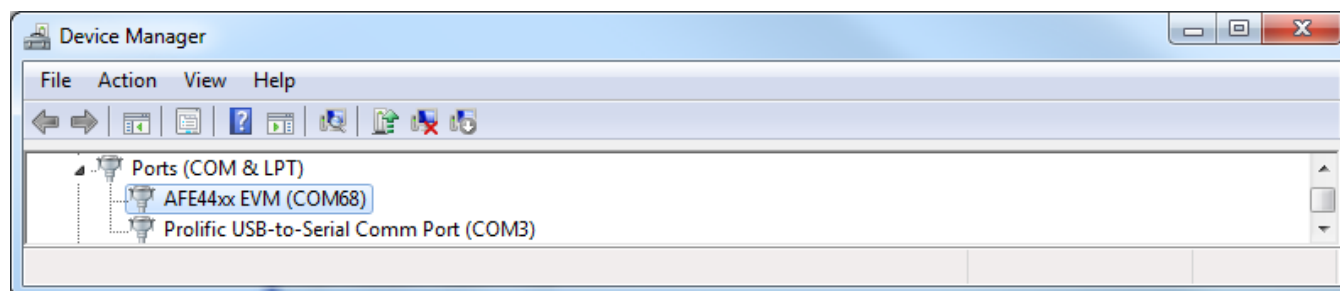

Figure 13. Device Manager Screen
7. The AFE4403EVM is now recognized as *Virtual COM Port* under the Device Manager as shown in Figure 13.